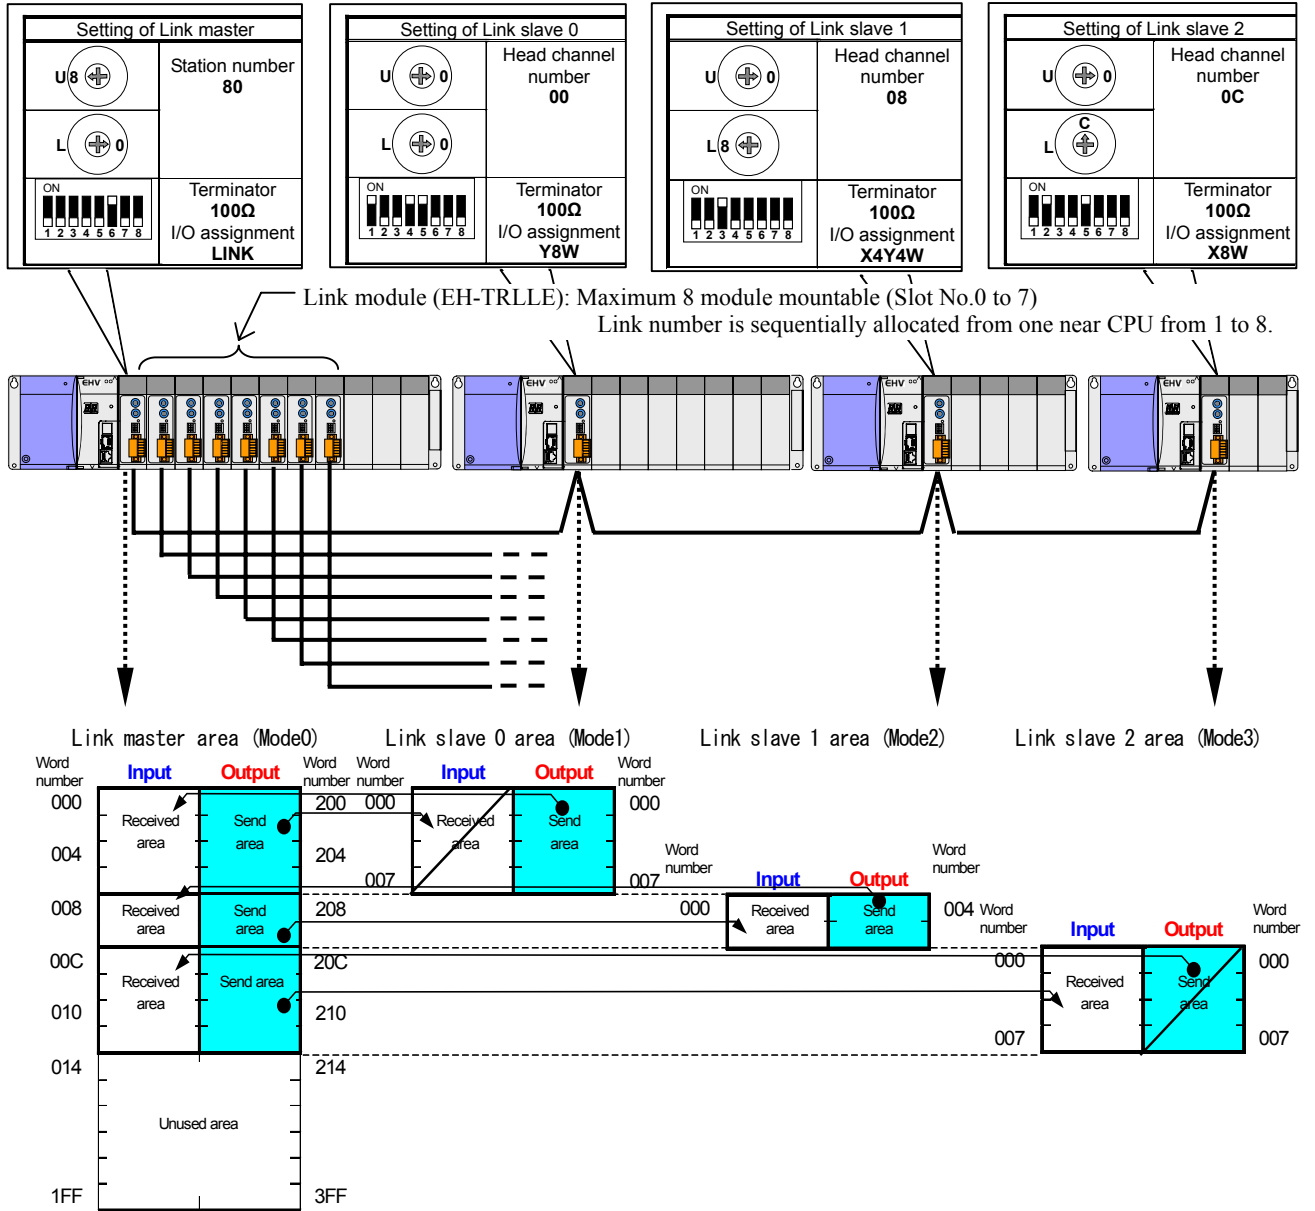
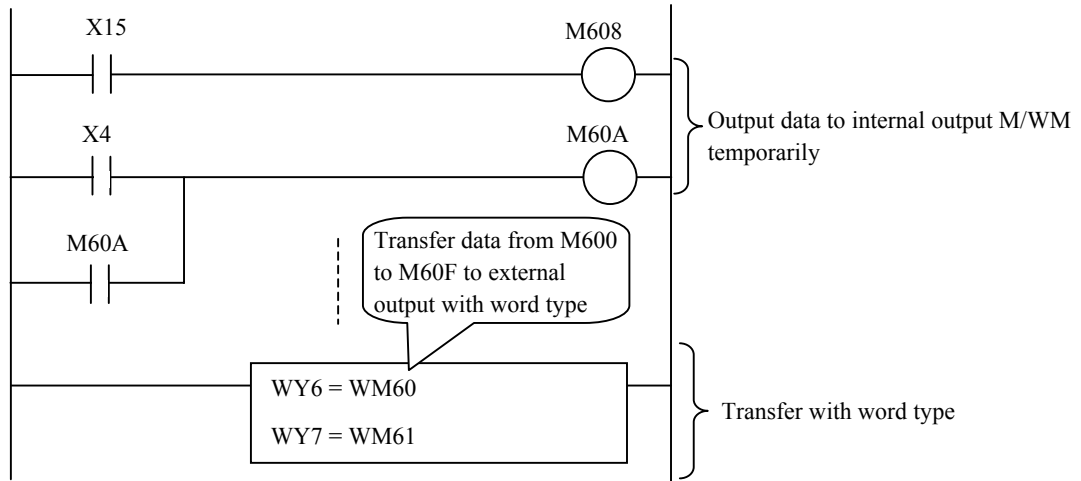

Figure 4.3.2 System configuration example (Slave: Mode1/ Mode2/ Mode3)
Figure 4.3.4 Sample program with bit I/O numbers that exceed 95
Figure 4.3.2 is the system configuration example that master station is set to Mode0 and slave stations are set to Mode1 or Mode2 or Mode3 as operation mode. Refer to section 3.1 for the setting method of the compatible mode.
- 2) When the slave station is set the rotary switches to the operation mode "Mode1", the head channel number is the head I/O number (in the case of figure 4.3.2: WY0), and the module occupies 8 channels from head channel. This mode is the operation mode that there are the outputs of 128 points. CPU module can't read the input area of the compact link module.
- 3) When the slave station is set the rotary switches to the operation mode "Mode2", the head channel number is the head I/O number (in the case of figure 4.3.2: WX0 and WY4), and the module occupies 4 channels from head channel. This mode occupies 4 channels as the pair of each input and output, and there are the inputs of 64 points and the outputs of 64 points.
- 4) When the slave station is set the rotary switches to the operation mode "Mode3", the head channel number is the head I/O number (in the case of figure 4.3.2: WX0), and the module occupies 8 channels from head channel. CPU module can't write the output area of the compact link module.
6) Bit number in module is from 0 to 95. Therefore, use the word number as WY6 and WY7 in Figure 4.3.2 for the number that exceeds 95. In the case of using these numbers as coil or contact in ladder program, use internal output like as M/WM temporarily and transfer these data to external output as shown in Figure 4.3.4.